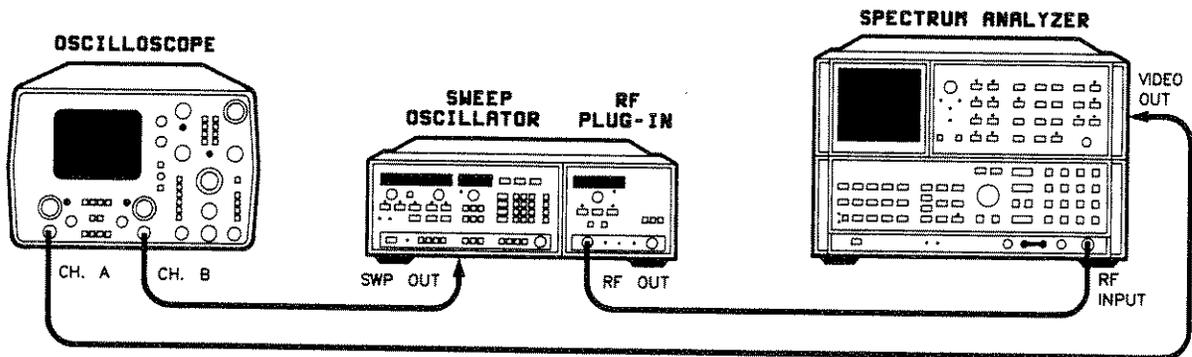

Figure 5-14. YO Retrace Compensation Test Setup
1. Connect the equipment as shown in figure 5-14. Do *not* connect the sweep oscillator POS Z BLANK to the oscilloscope.